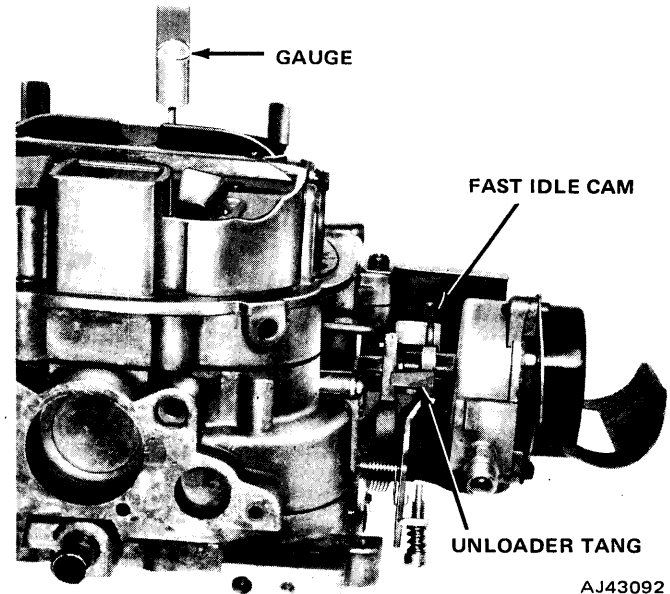
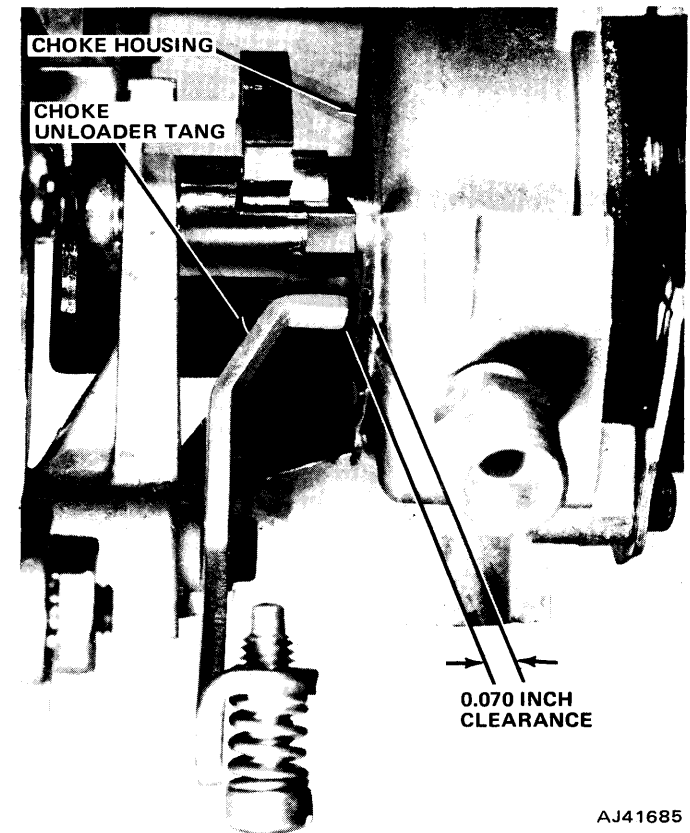

Fig. 4-137 Unloader Adjustment
Fig. 4-138 Unloader-to-Choke Housing Clearance
(3) Adjust by bending the unloader tang which contacts the fast idle cam as shown in figure 4-137. Bend toward the cam to increase the clearance and away from the cam to decrease the clearance. After making the adjustment, make certain the unloader tang has at least 0.070-inch clearance from the choke housing when the throttle is fully open (fig. 4-138).
(4) Operate throttle and check unloader tang to make sure it does not bind, contact, or stick on any part of carburetor casting or linkage. After carburetor installation, check for full throttle opening when the throttle is operated from inside the vehicle. If full throttle opening is not obtainable, it may be necessary to remove